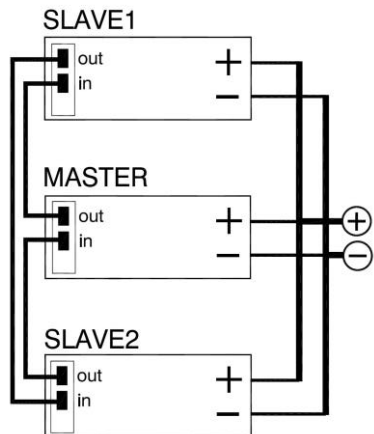

Figure 6.6: Optional Master/slave parallel-connected operation
- With the optional Master/Slave interface the power supplies can be connected in parallel without limitations and with full functionality, see Figure 6.6.